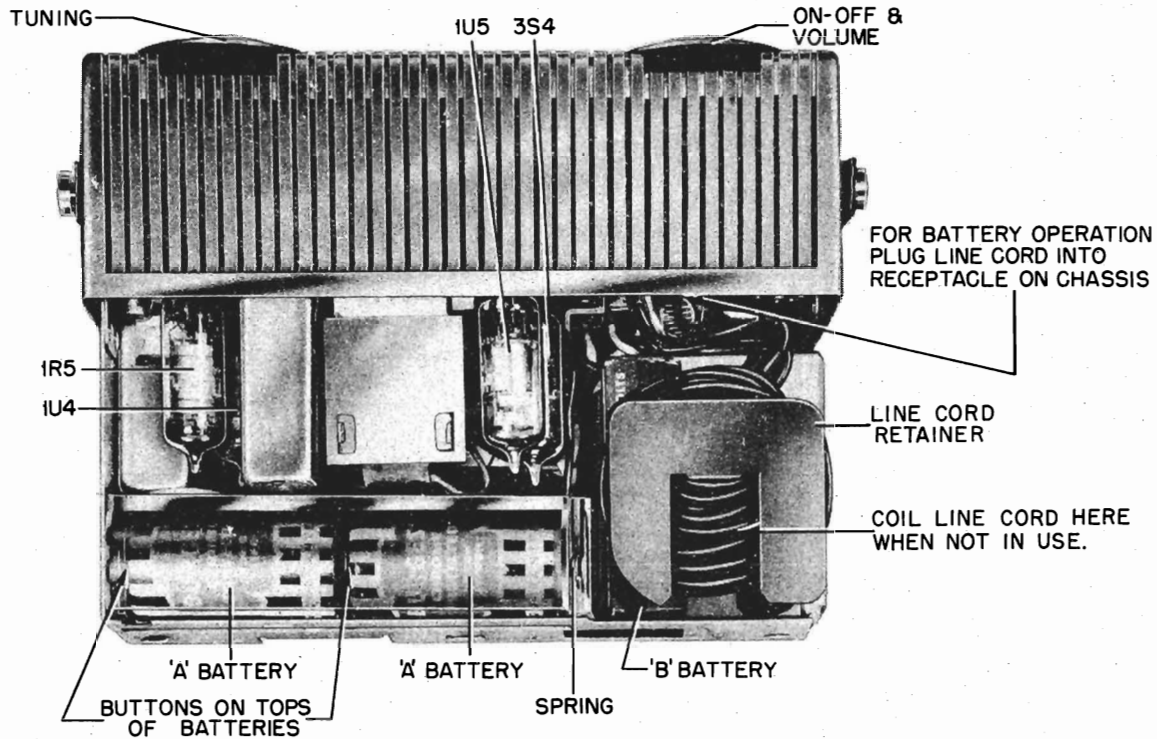

FIGURE 2. REAR VIEW OF RECEIVER
**BATTERY OPERATION.** Remove the lower housing and install batteries by following the instructions on the label located inside the housing, or refer to Figure 2. Plug the power line cord into the receptacle on the chassis, or the receiver will not play from batteries. If the radio is to be operated for a long period of time from house power lines,
**BATTERY REPLACEMENT.** If low volume or fuzzy tone is noticed when operating from batteries, replace the flashlight cells. Normally, the 67-1/2 volt "B" battery will last for 3 or 4 changes of the flashlight cells. Complete battery replacement instructions will be found inside the lower housing of the receiver, or refer to Figure 2. **NOTE:** The condition of the batteries will not affect operation of the receiver from the house power lines.